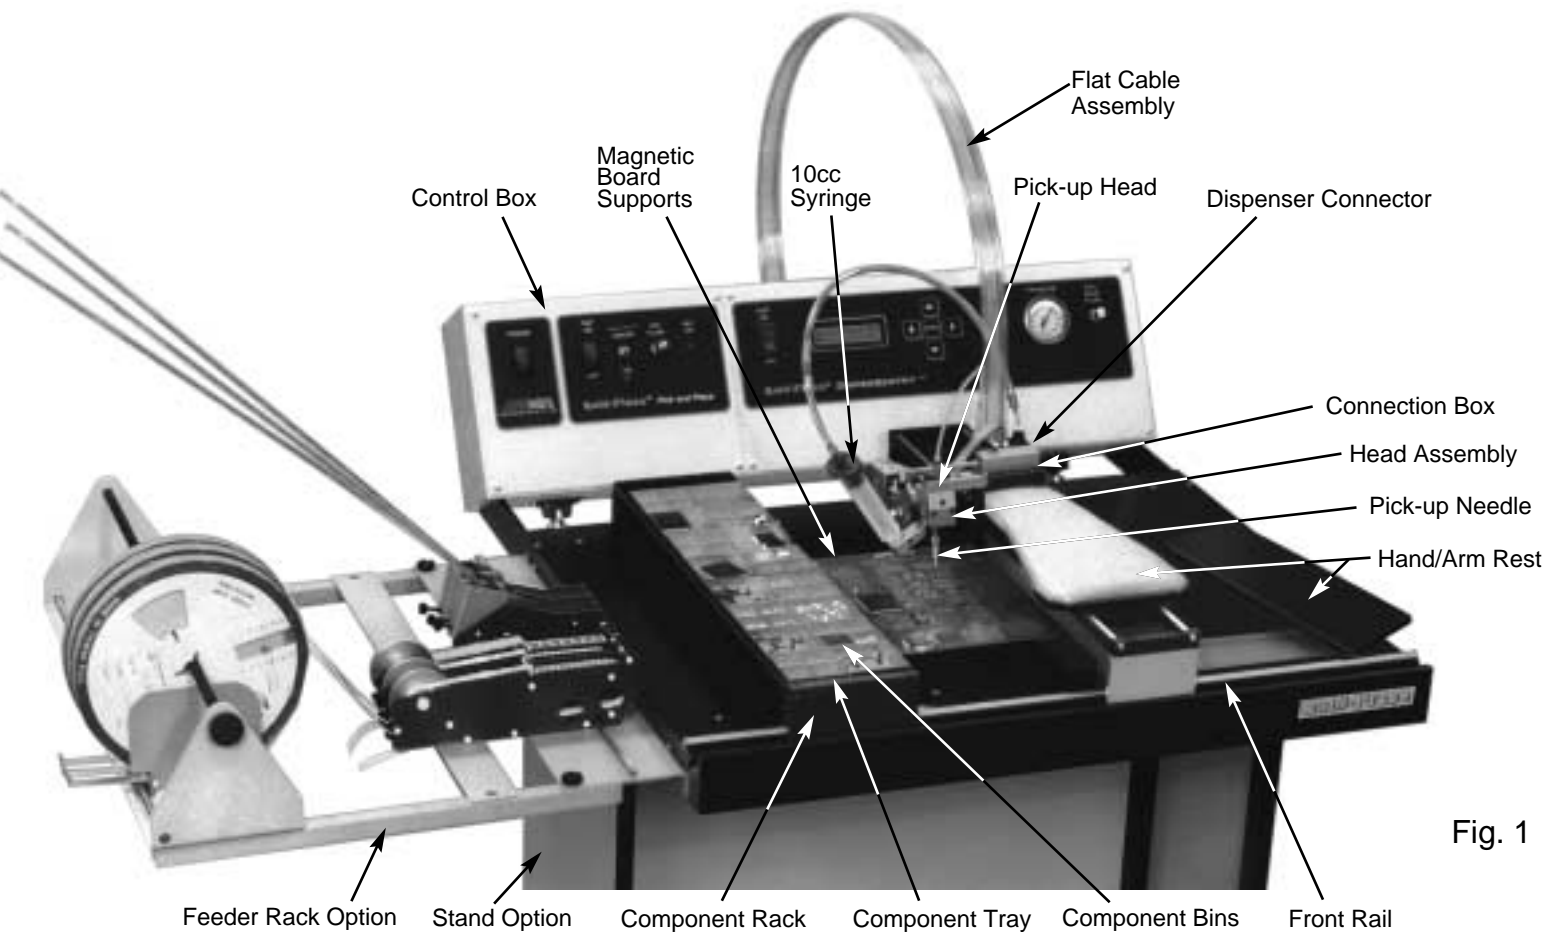

Fig. 1
III. SET-UP AND INSTALLATION (Refer to Figs. 1, 2 & 3)
8. Place component rack on front rail and ensure that it slides properly (refer to Fig. 1).
9. Place (2) component trays in component rack and ensure that bins are seated properly in trays.
IV. PICK & PLACE OPERATION (Refer to Fig. 1.)